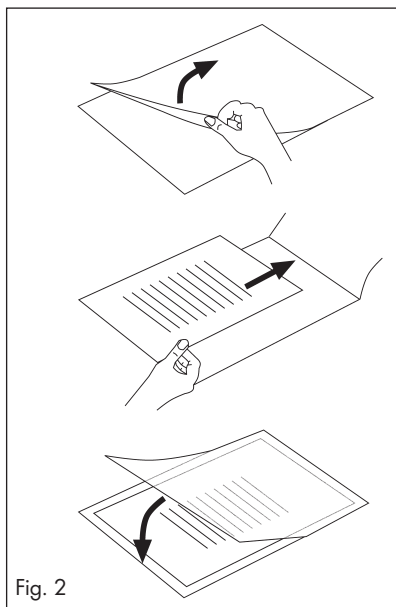

Fig. 2
-  Make certain that you use only one pouch for laminating. First flip it up, as shown in Fig. 2.